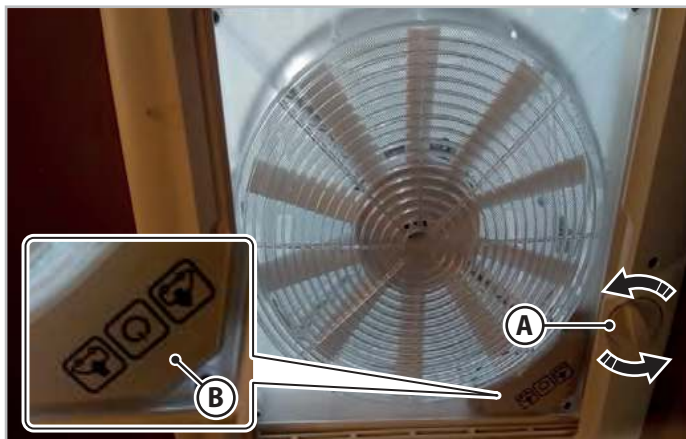

Fig.6.5 - Skylight with handwheel
Turn the handwheel (**A** - Fig.6.5) in either direction to raise (open) or lower (close) the skylight. The opening of the skylight can be adjusted to any intermediate position.
To use the ventilation and extraction function, open the skylight with the handwheel (**A** - Fig.6.5) and select the ventilation function with air in (IN) or out (OUT), using the key (**B** - Fig.6.5).